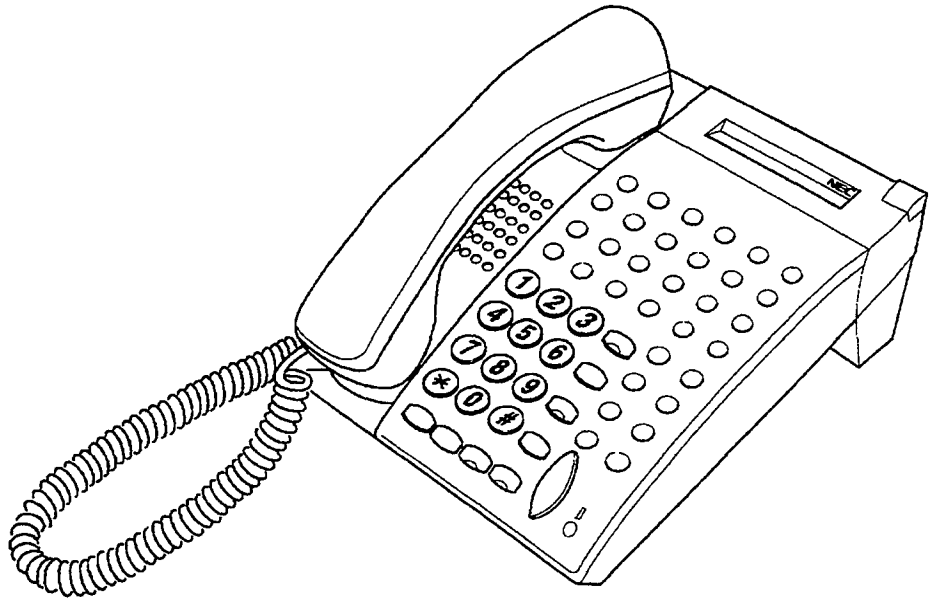

Figure 4-36 DTU-32-( ) (BK)/(WH) TEL
This non-display digital multiline terminal has 32 programmable line keys (each with a two-color LED), built-in speakerphone, built-in headset jack, a Large LED to indicate incoming calls and messages, and compatibility with the ADA-U, APR-U, and HFU-U Units. Refer to Figure 4-36 - DTU-32-( ) (BK)/(WH) TEL.